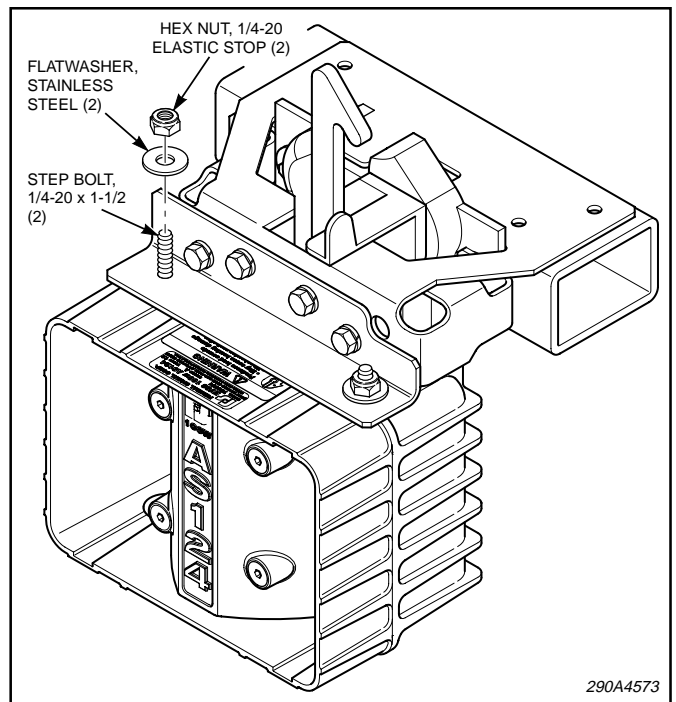

Figure 5.
4. Mount the speaker to the bracket using the 1/4-20 step bolts and hardware supplied with the speaker. See figure 5.